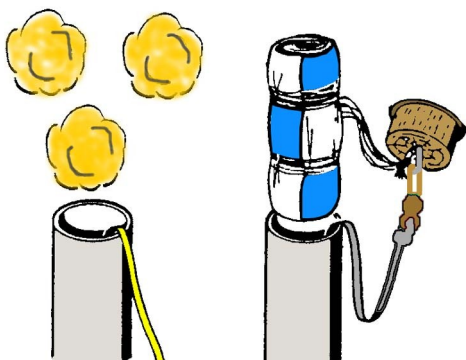

Figure 9
- **Step 23** As shown in Fig. 9, insert about 2" of your preferred flameproof recovery